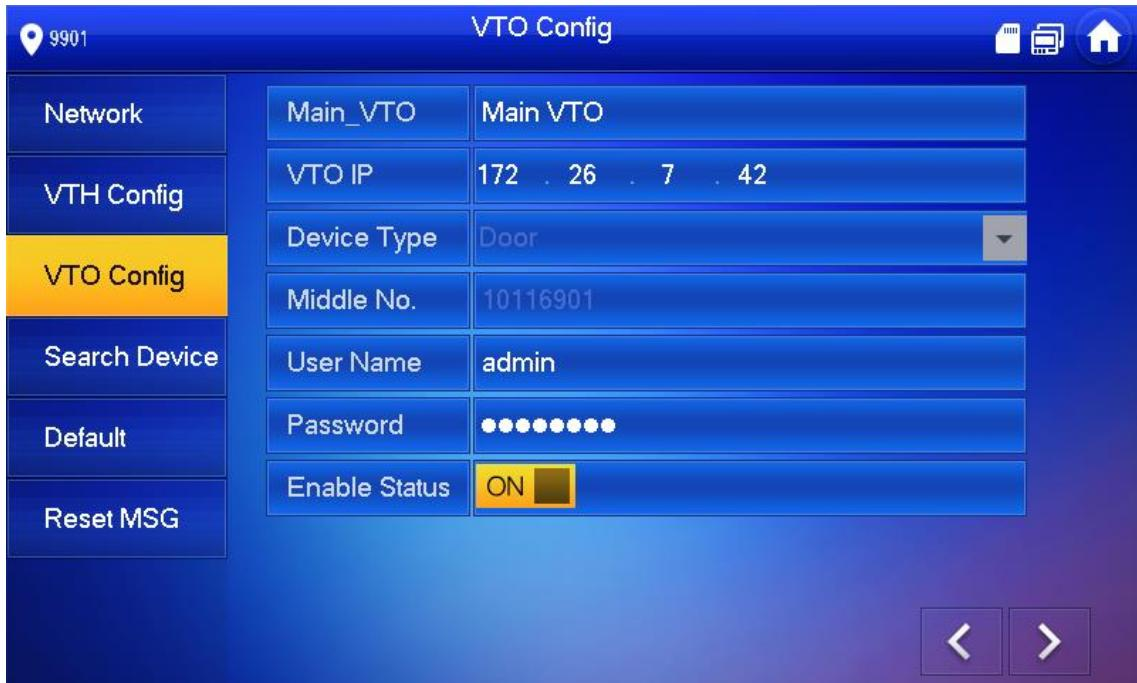

Figure 5-19
The system displays “VTO Config” interface, as shown in Figure 5-19.
1. In Figure 5-19, enter main VTO name, VTO IP, “Username” and “Password”.